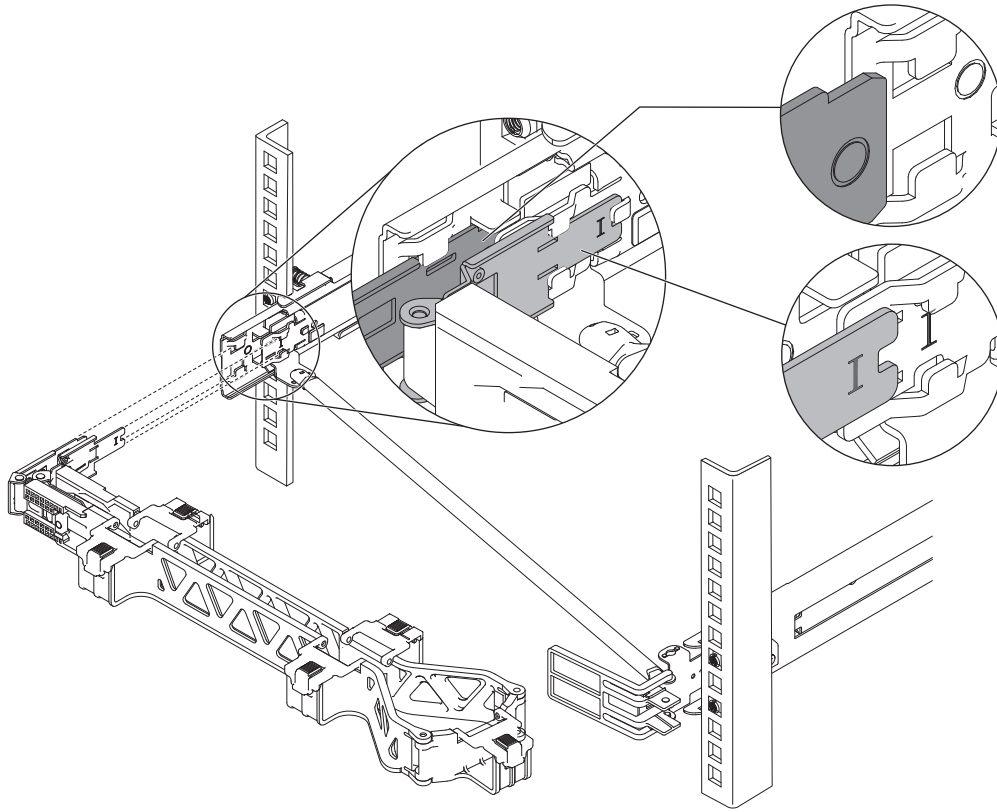

Figure 23. Installing the cable management arm stop bracket
4. Install the cable management arm stop bracket, as shown by Figure 23 on page 29.